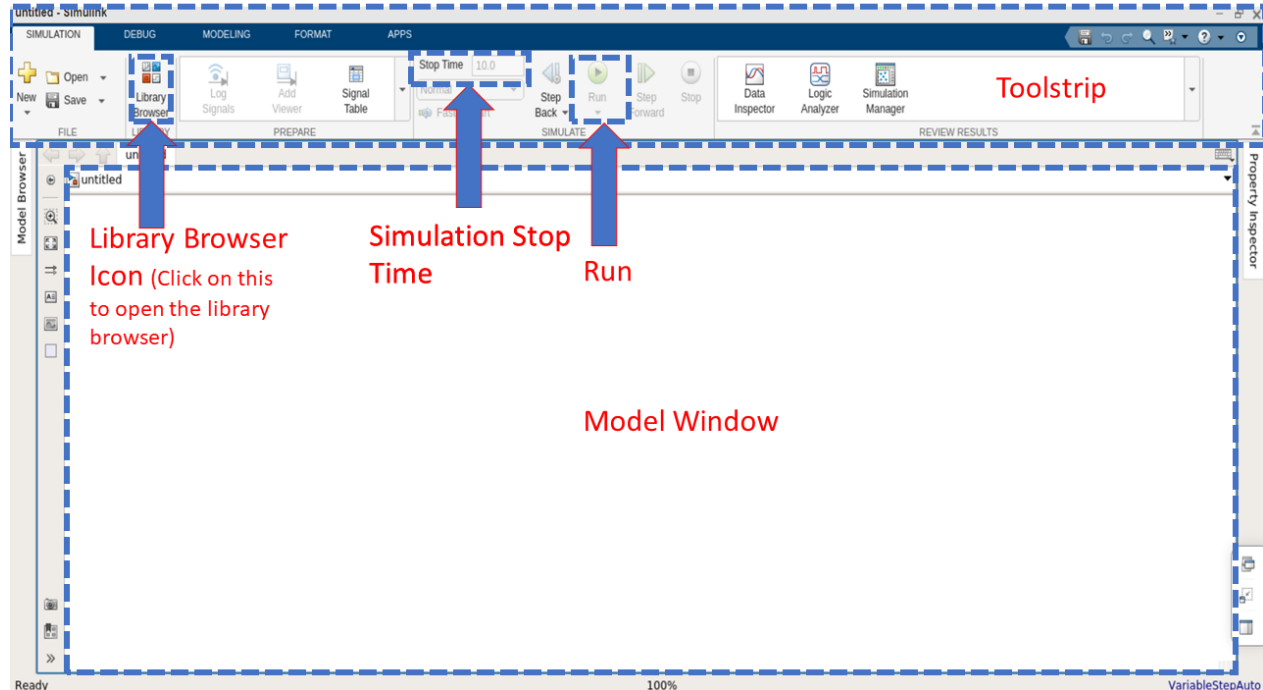

Figure 2.3: The Simulink Layout
Figure 2.3 shows the Simulink Layout. To construct a Simulink model, you first copy blocks from the Simulink Library Browser to the Model window. As shown in Figure 2.3 Simulink Library Browser can be opened by the Simulink Library Icon located in the toolstrip.
4. Set the simulation stop time to 20s (shown in Figure 2.3).
5. Now simulate your sample model and observe the results. To run the simulation click *Run* button shown in Figure 2.3.